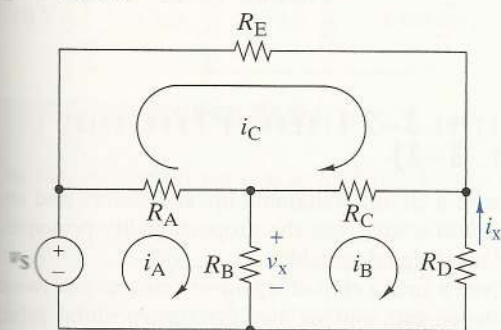

FIGURE P3-11
- (b) Formulate mesh-current equations for the circuit in Figure P3-11.
(c) Formulate node-voltage equations for the circuit in Figure P3-11.